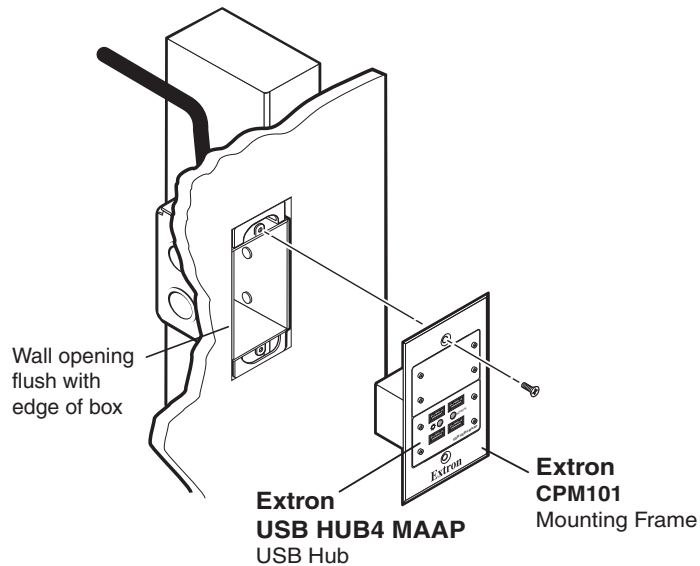

Figure 12. Installing a USB HUB4 MAAP in a One-gang Wall Box
3. Attach the mounting frame with the attached HUB4 to the wall box, using the two included mounting screws (see figure 12 on page 13).